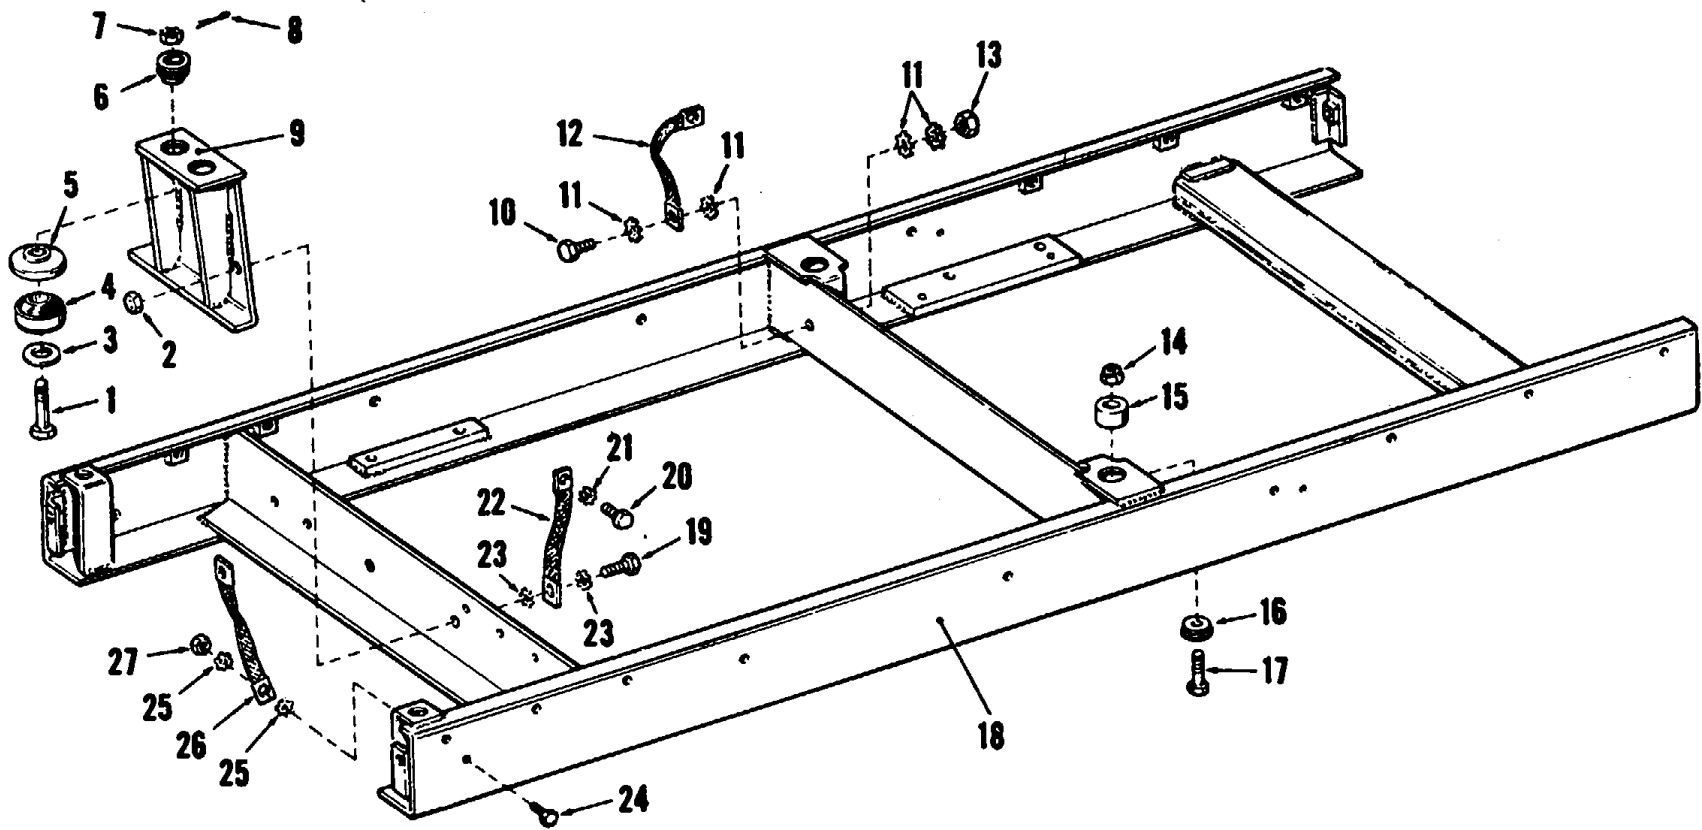

Figure 96. Engine-compressor frame and mounting.
b. *Removal from Frame* (fig. 96). Remove the radiator and fan (par. 88a). Remove the cotter pins (8) and